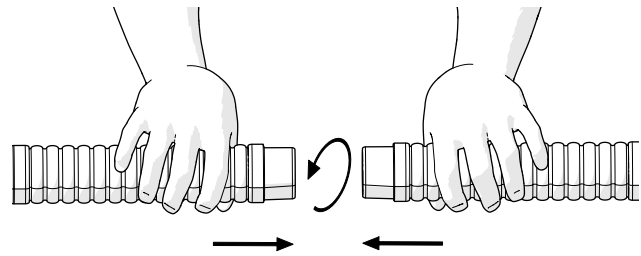

Fig. 2
Step 1b: Connect the hoses (Fig. 2)